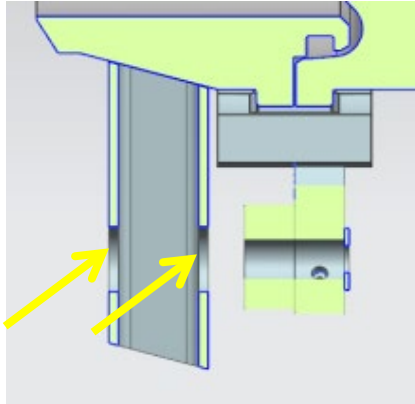

Figure 19: Upper Surface of Pivot Plate
- K. Use weld instructions found on the top-level clamp manufacturing document to weld clamp ring pivot pin, see Figure 19.